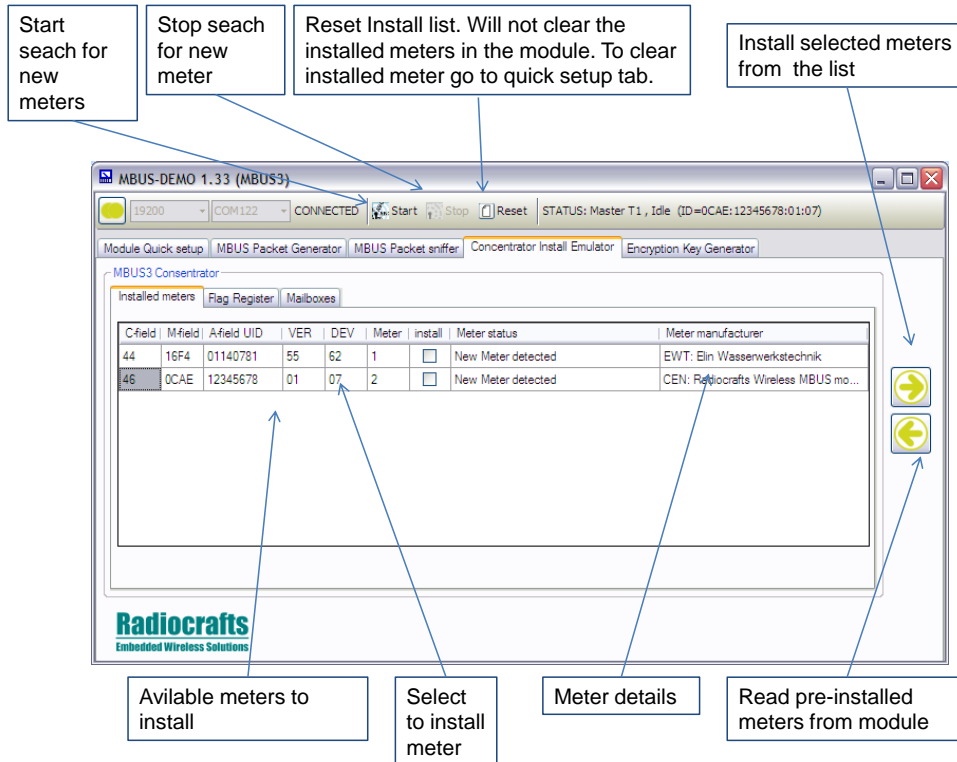

Figure 9. MBUS3 Concentrator Install Emulator
The user window for the Concentrator Install Emulator for MBUS3 is illustrated in figure 9.
3. Enable encryption in the Concentrator Install Emulator / Flag Register (see figure 9)